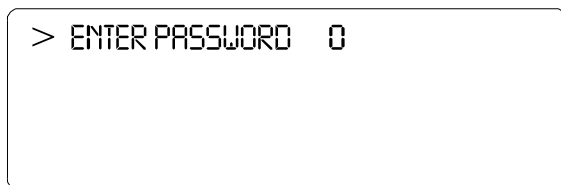

FIG. 340: ENTER A "0"
- Step 4. Press on the Enter Button. The Enter Password Display appears. (See Fig. 340)